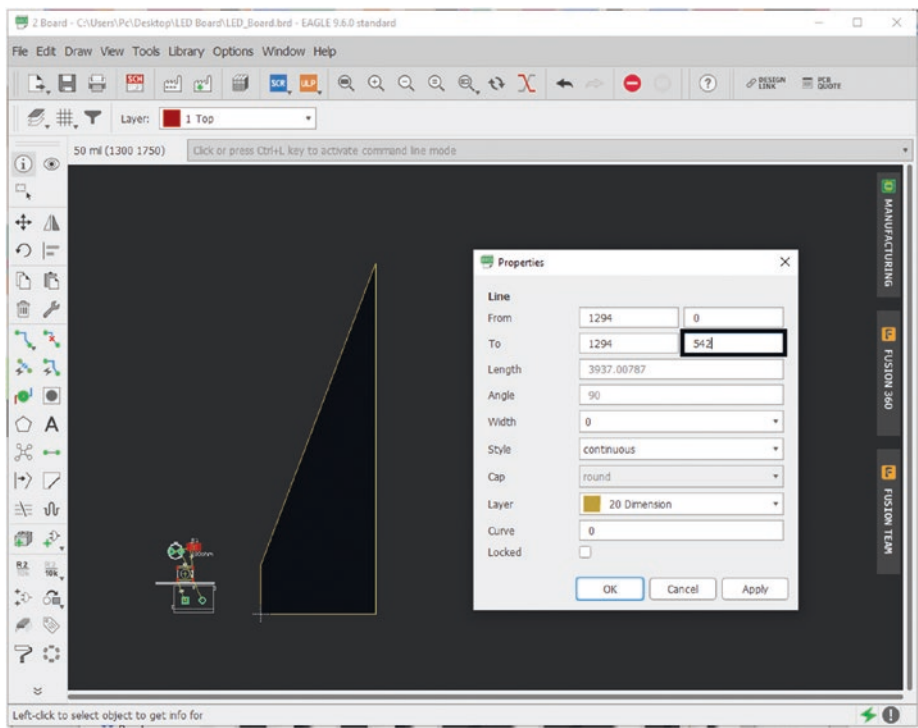

Figure 5-62. Update right vertical line value
- 11. Type 542 into the second box next to “To,” and you now have the dimensions for the PCB. See Figure 5-62.